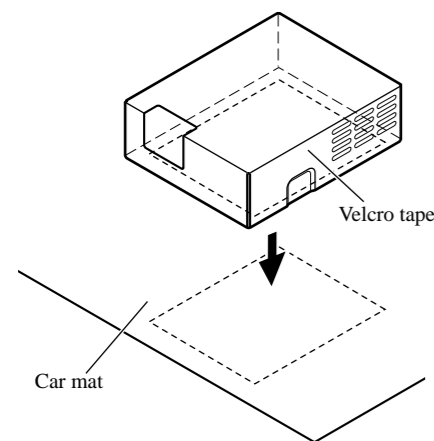

Fig. 12
**Installing the power box (Fig. 12)**